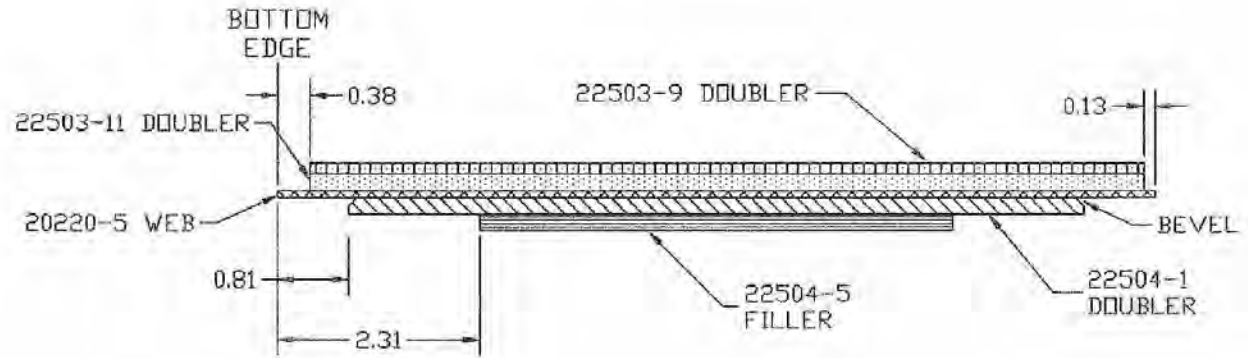
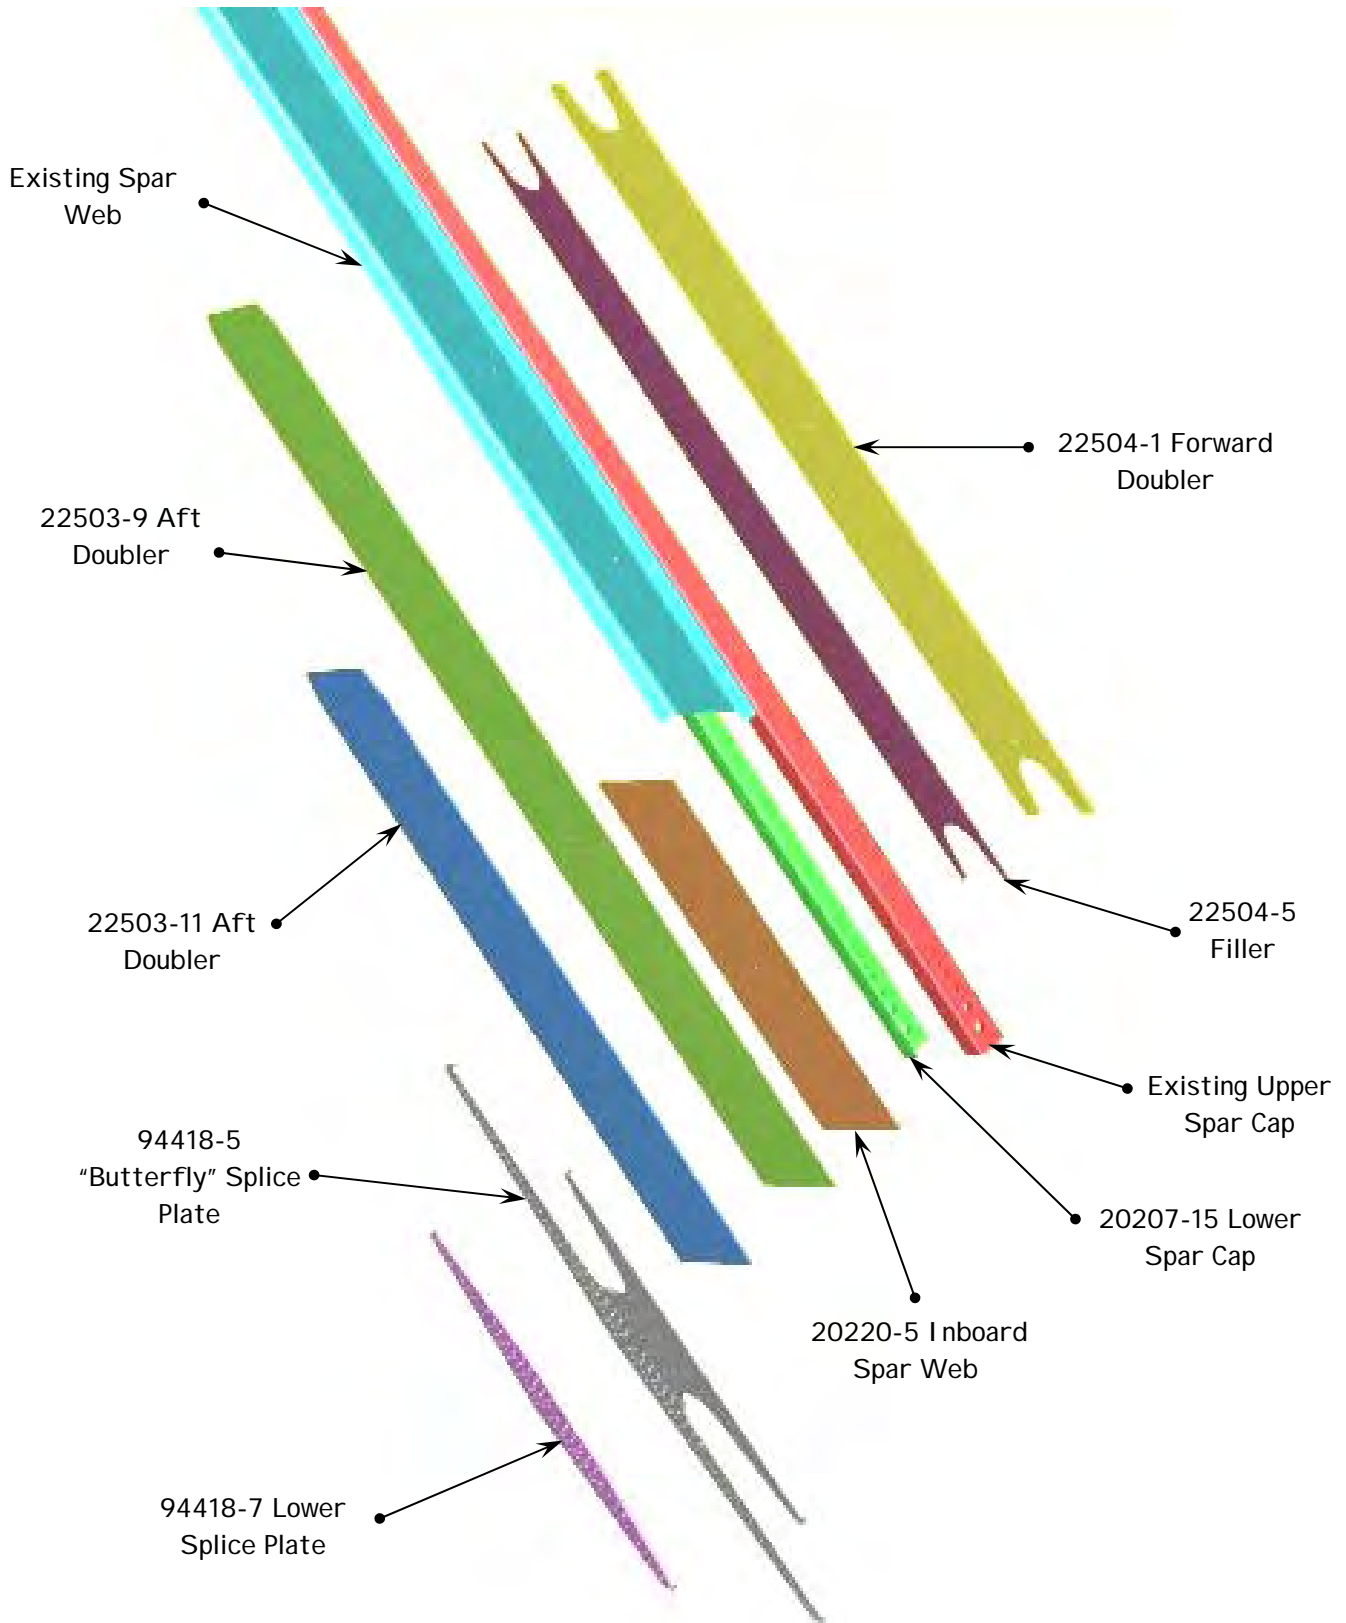

Figure 4.3.1) Spar Web Stack-Up For Drilling Only
Figure 7.1): Exploded View of New Spar Inboard Web and Doublers
- 4.3.1) The first step is to align all of the parts. Refer to Figure 4.3.1)
- 4.3.1.1) Normally 22503-11 would be on top, and beneath it would be 22503-9, as shown in Figure 7.1). For purposes of transferring the holes to all the doublers, however, 22503-9 will have to be on top, with 22503-11 beneath it, aligned at the top, bottom and inboard edges. Third in the stack-up is 20220-5. Its inboard edge aligns with the inboard edge of 22503-11, but the bottom edge should stick down below 22503-11 by $\frac{3}{8}$ ". The top edge of 20220-5 should stick up above 22503-11 by $\frac{1}{8}$ ". The 22504-1 forward doubler is beneath the 20220-5. The bottom edge of 22504-1 is parallel to and $\frac{13}{16}$ " (.813) above the bottom edge of 20220-5. Note that the beveled long edges of 22504-1 should face the top of the stack. The inboard end of 22504-1 is $8 \frac{5}{16}$ " outboard of the inboard edge of 20220-5, at the bottom. Finally, the 22504-5 filler is on the bottom of the stack, with its lower edge parallel to and $2 \frac{5}{16}$ " above the bottom edge of 20220-5 ($1 \frac{1}{2}$ " above the bottom edge of 22504-1). See Figure 4.3.1) for the appropriate doubler stack-up for drilling.
- 7.1) **With the LE and main rib lengths adjusted as necessary, and the spar web and doubler stack-up drilled, the new spar web doublers can be installed.** It is suggested that these doublers be fit checked first so that any damaged or slightly misaligned holes can be opened up to the next standard fastener size, if necessary. If this is not large enough to fix the damage the mechanic must determine, based on AC 43.13-1B, what the best course of action is. See Figure 7.1) for proper doubler placement.
- 7.1.2) The .190 thick aluminum 22504-5 filler goes immediately in front of the spar web, between the spar cap flanges, and the .190 thick steel 22504-1 forward doubler goes immediately in front of it. They need not have sealer between them, but there needs to be sealer between the filler and the forward side of the spar web. Note that the beveled edges of the 22504-1 go aft, to provide clearance at the spar cap flange radii. Refer to Figure 7.1) for an illustration of the correct placement of these doublers.